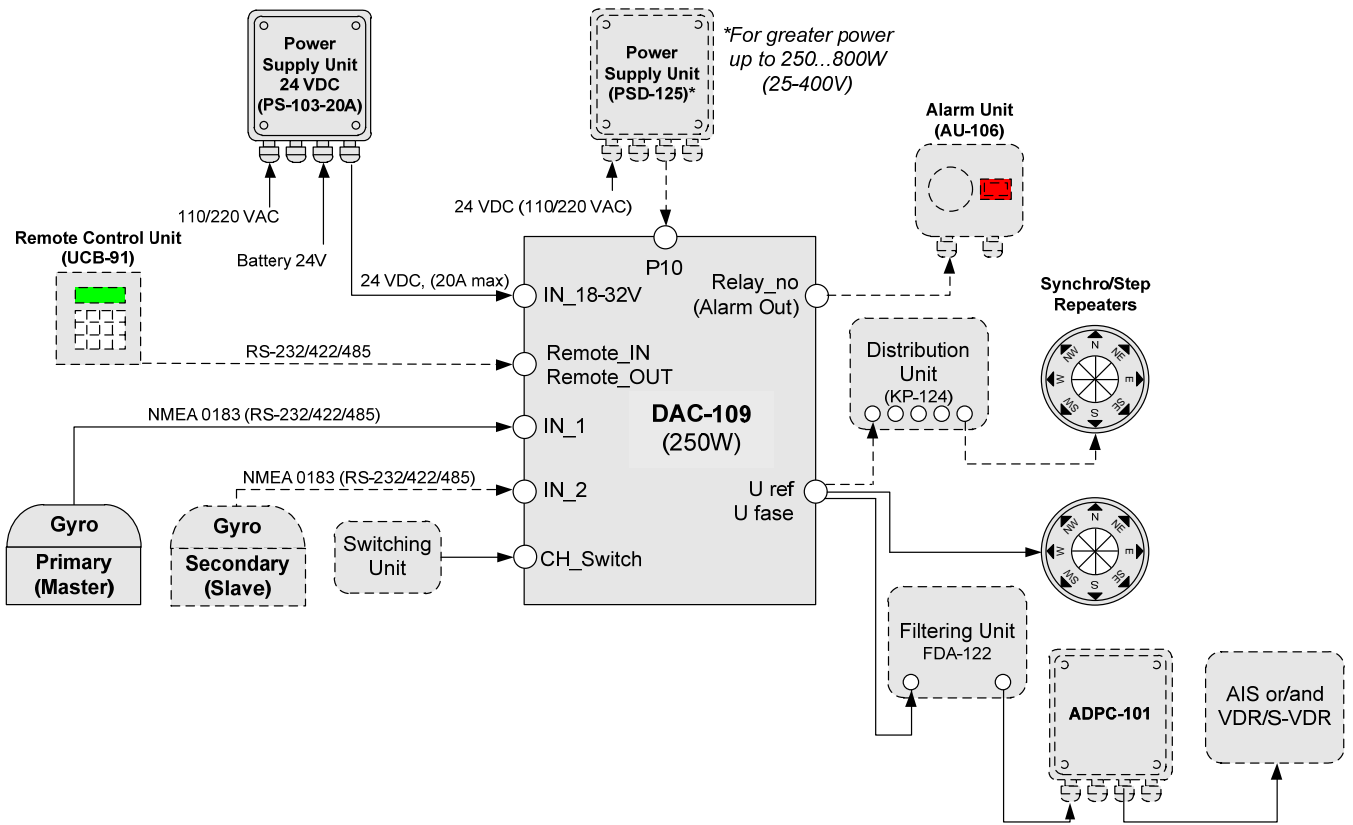
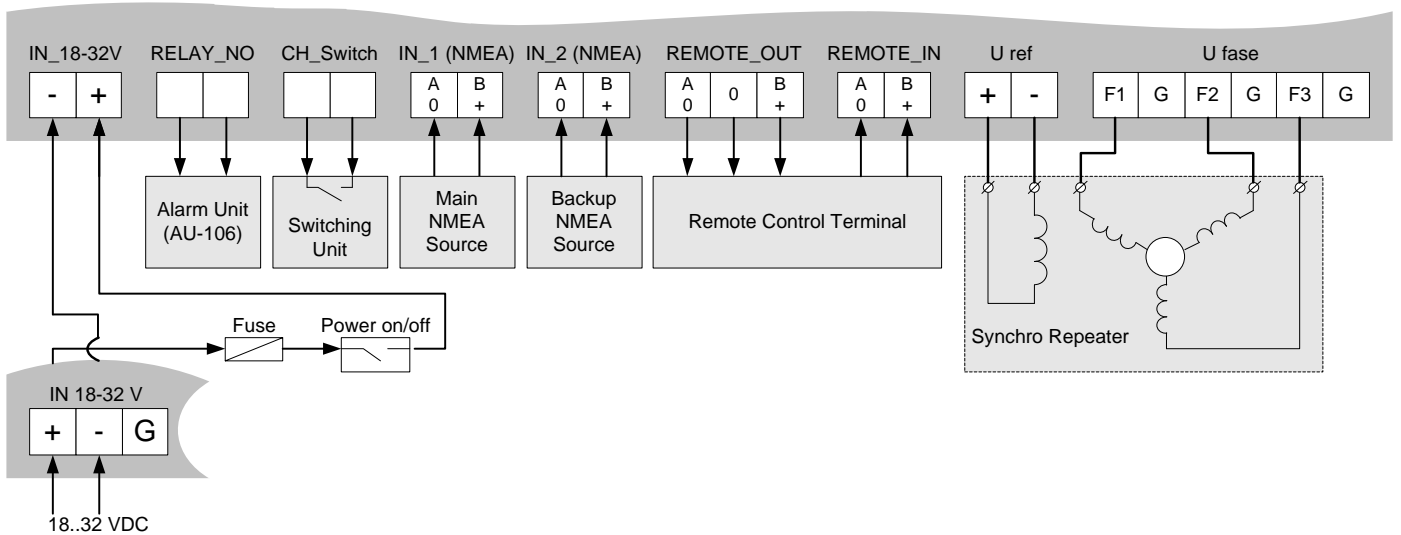
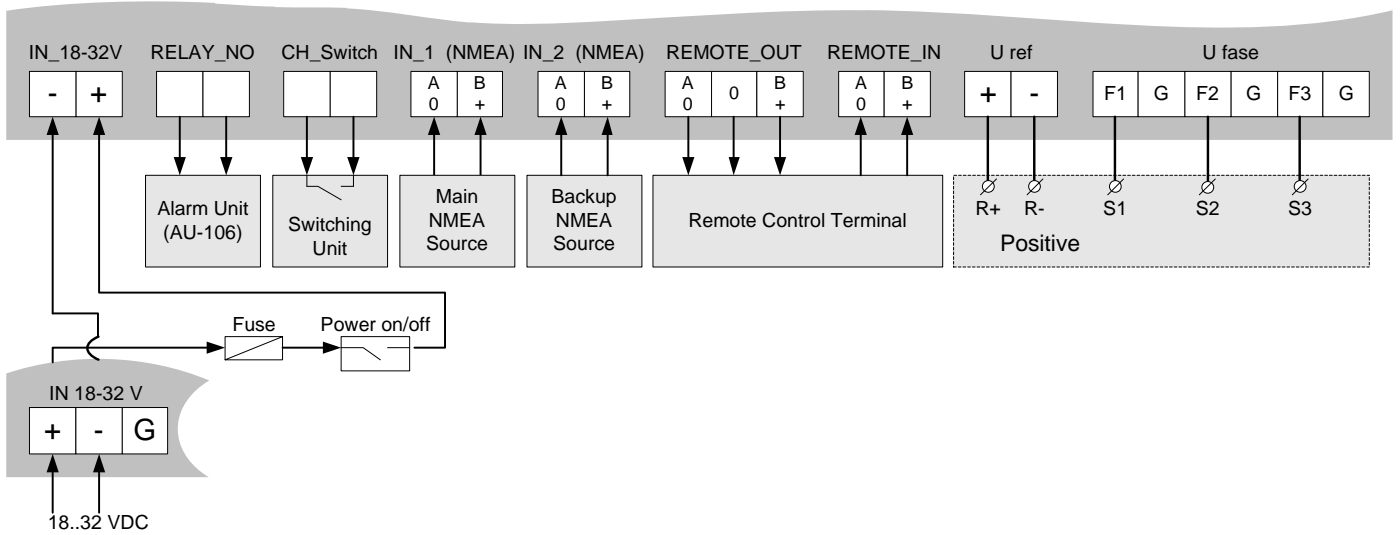
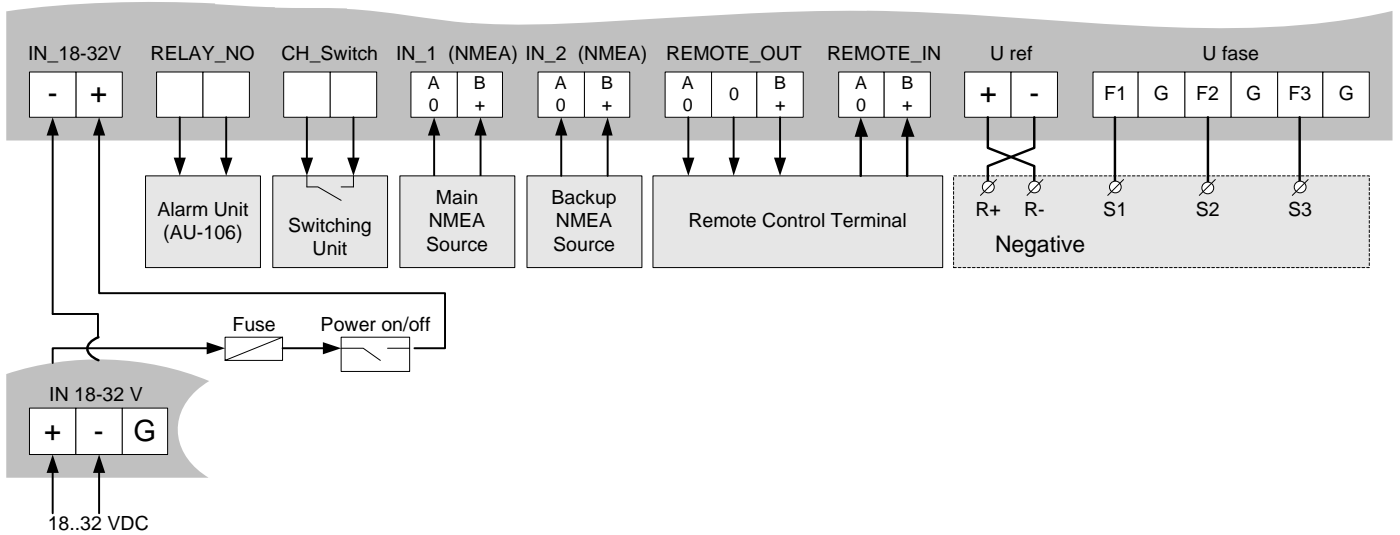

Figure 2. DAC-109 connection flowchart.
Figure 3. The diagram of connection Synchro consumers to DAC-109
Figure 4. The diagram of step consumers connection to DAC-109 with "common plus"
Figure 5. The diagram of step consumers connection to DAC-109 with "common minus"
- f) Lead coupling cables from the external devices and power source. Connect cables to removable terminal blocks in accordance with the type (step or synchro) of repeaters (see Figure 2, Figure 3, Figure 4, Figure 5).
If reserve source of NMEA signal is connected and parameter of "Backup Channel" in the position "Off" then the switching over to the reserve channel and back is possible by manual mode only (see Figure 3 "CH_Switch" terminal block).